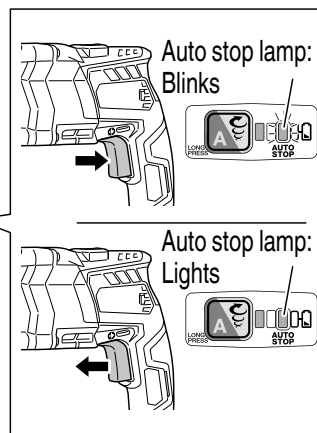

Fig. 31
- Auto stop mode (on/off) (**Fig. 31**)
In selection mode, pressing the changeover switch for longer than two seconds will move to memory mode. (**Fig. 31**)